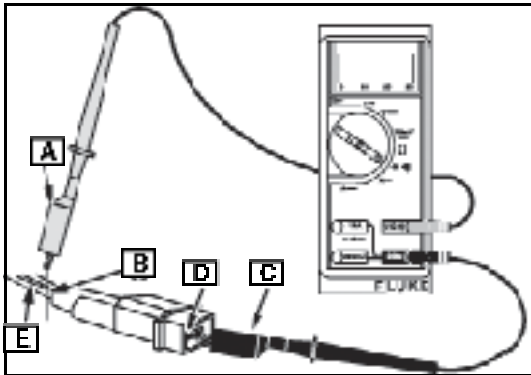

Fig. 28
2. Attach RED test lead clip (A) to point (B) and BLACK test lead clip (C) to DC output pin (D). Fig. 28. (It may be necessary to pierce wire with a pin as shown(E)).